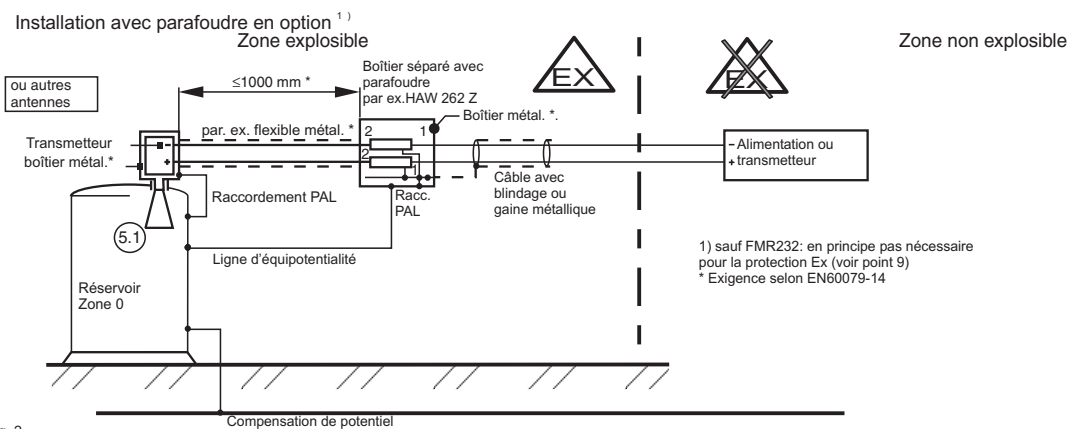

Fig. 2
- 6.2 Option: overvoltage protector HAW 262 Z, see figure 2.
- 6.2 Option : Parafoudre HAW 262 Z voir fig. 2.